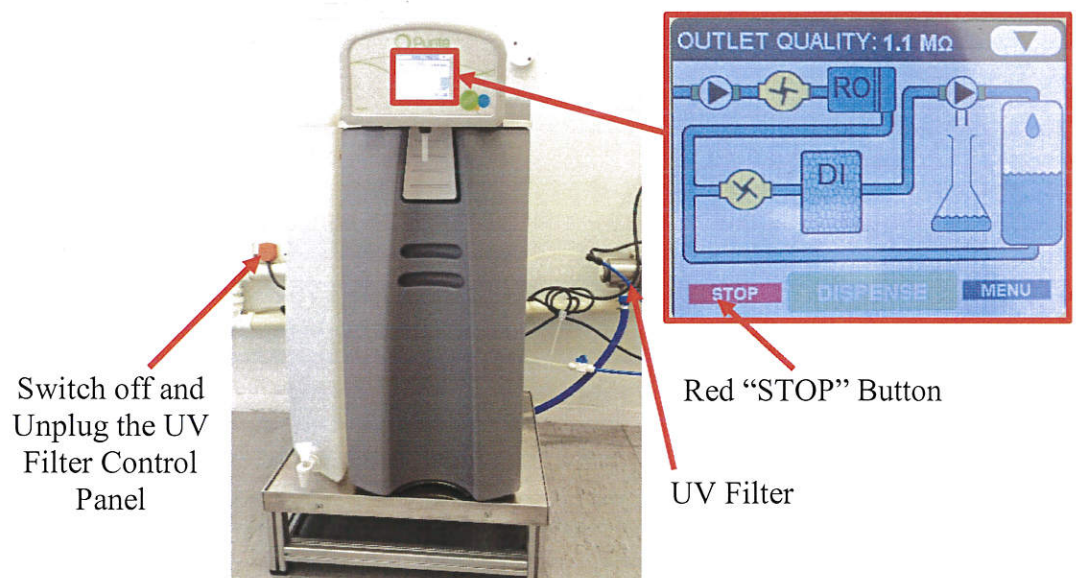

Figure 2: Purite System for CR1, shown with a zoomed in view of the control panel.
- 6.2.2. **Switch Off Filter Unit.** Switch off the filtration unit at the control panel by pressing the red "STOP" button, as identified in Figure 2:
- 6.2.3. **Isolate the Electrical Supply.** Switch off and un-plug the electrical supply for the UV filtration system, as shown in Figure 2: